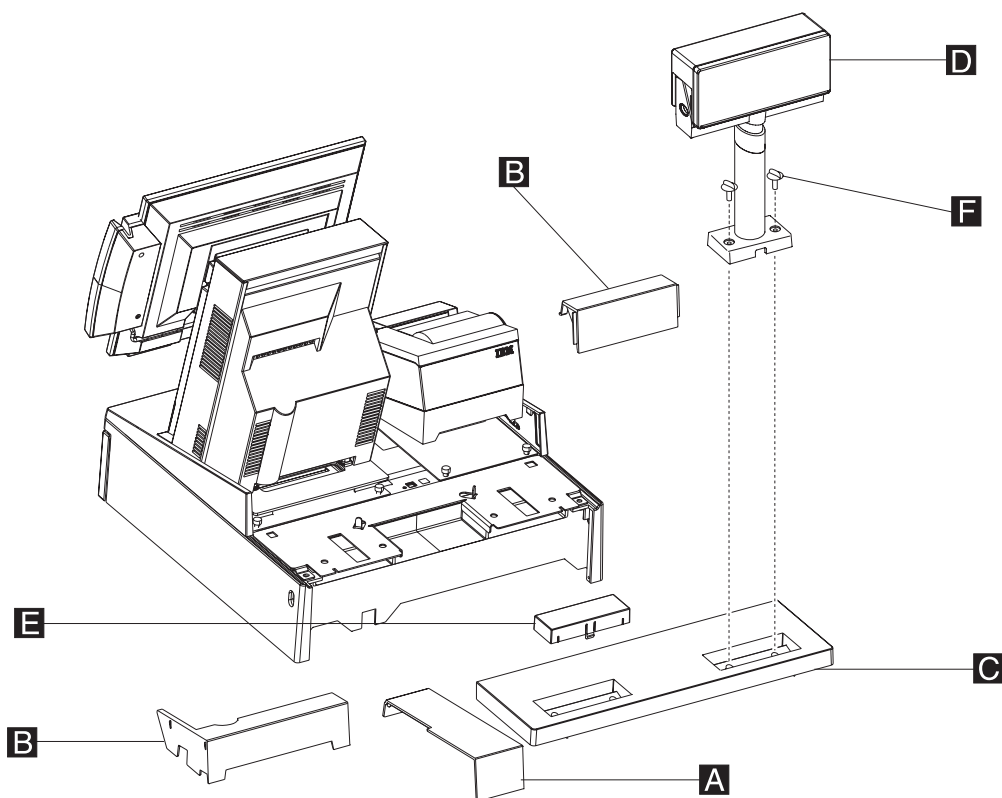

Figure 62. Attaching the distributed customer display to the system unit
- a. Remove the filler panels **A** and **B** (two) and the rear modesty panel **C** from the integration tray, as shown in Figure 62.
- b. Remove one of the two plugs **E** in the rear modesty panel. Figure 62 shows one plug removed.
- f. Reinstall the filler panels **B**, and then install **A**, as shown in Figure 62.